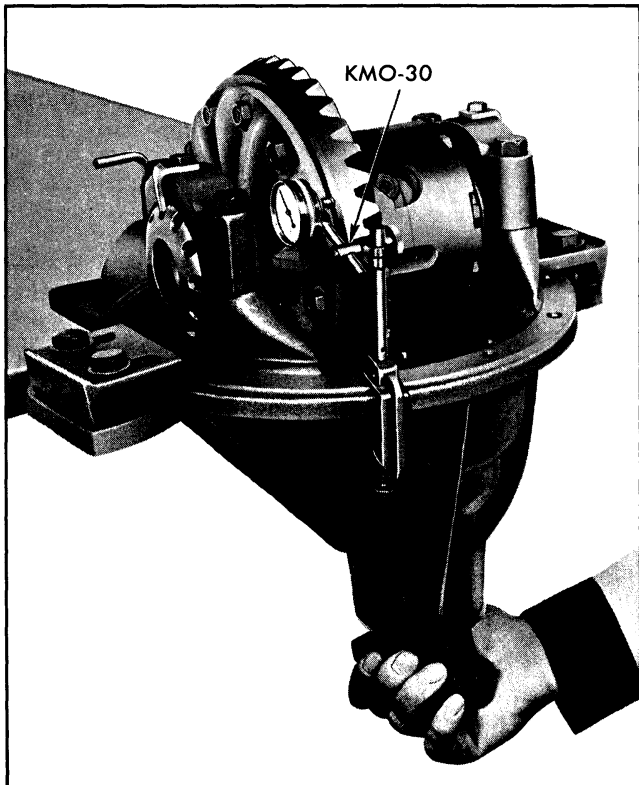

Fig. 4-70 Checking Ring Gear Run-out with KMO-30 Set
10. Position indicator KMO-30 at side of ring gear and check ring gear run-out. Run-out should not exceed .001" (Fig. 4-70).